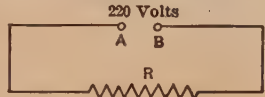

FIG. 6.
**Problem 11.** If  $R = 11$  ohms, Fig. 6, how many amperes are flowing in line?